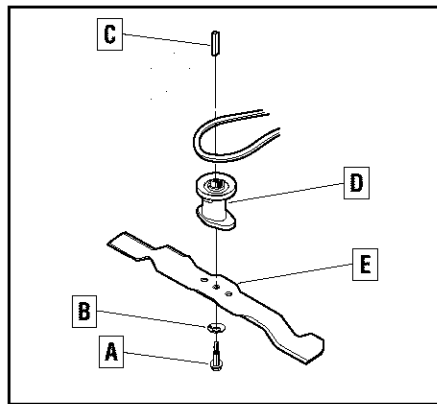

Figure 5-5: Mower blade assembly.
**IMPORTANT:** The blade coupler (D, Figure 5-5) may come off the engine shaft when removing the blade. If it does, do not lose the square key (C). The key fits into a square slot inside the blade coupler. Without it, the blade will not rotate.
3. Use a 3/4" wrench to loosen the blade screw (A, Figure 5-5). Hold the blade with a gloved hand to prevent the blade from rotating.
4. Remove blade screw and Belleville washer (A, B, Figure 5-5).
3. If the blade coupler (D, Figure 5-5) and/or square key (C) came off the engine shaft during blade removal, reinstall those parts back onto the engine shaft.
5. Slip the Belleville washer (B, Figure 5-5) onto the screw (A). Face the dished-in side to the blade.